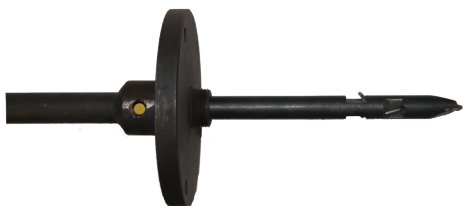

Figure 65
4.11.9) Confirm you have completely inserted the pilot drill and engaged the tapered flat. Look into set screw hole for the marking on the pilot drill. Adjust the pilot drill until you can see the marking (see Figure 65).